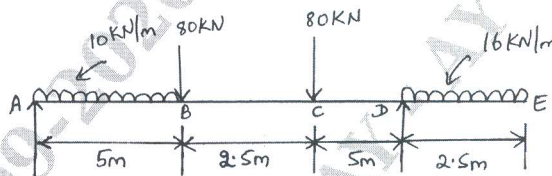

Fig.Q.6(b)
b. Draw shear force diagram and bending moment diagram for the beam shown in Fig.Q.6(b). (12 Marks)